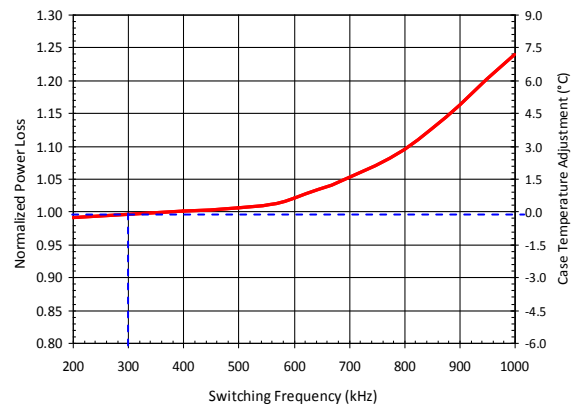

Figure 12: Normalized Power Loss vs. Switching Frequency
- 4) Determine the switching frequency normalizing factor with  $f_{SW} = 300kHz$ , which is 0.99 based on the dashed lines in Figure 12.